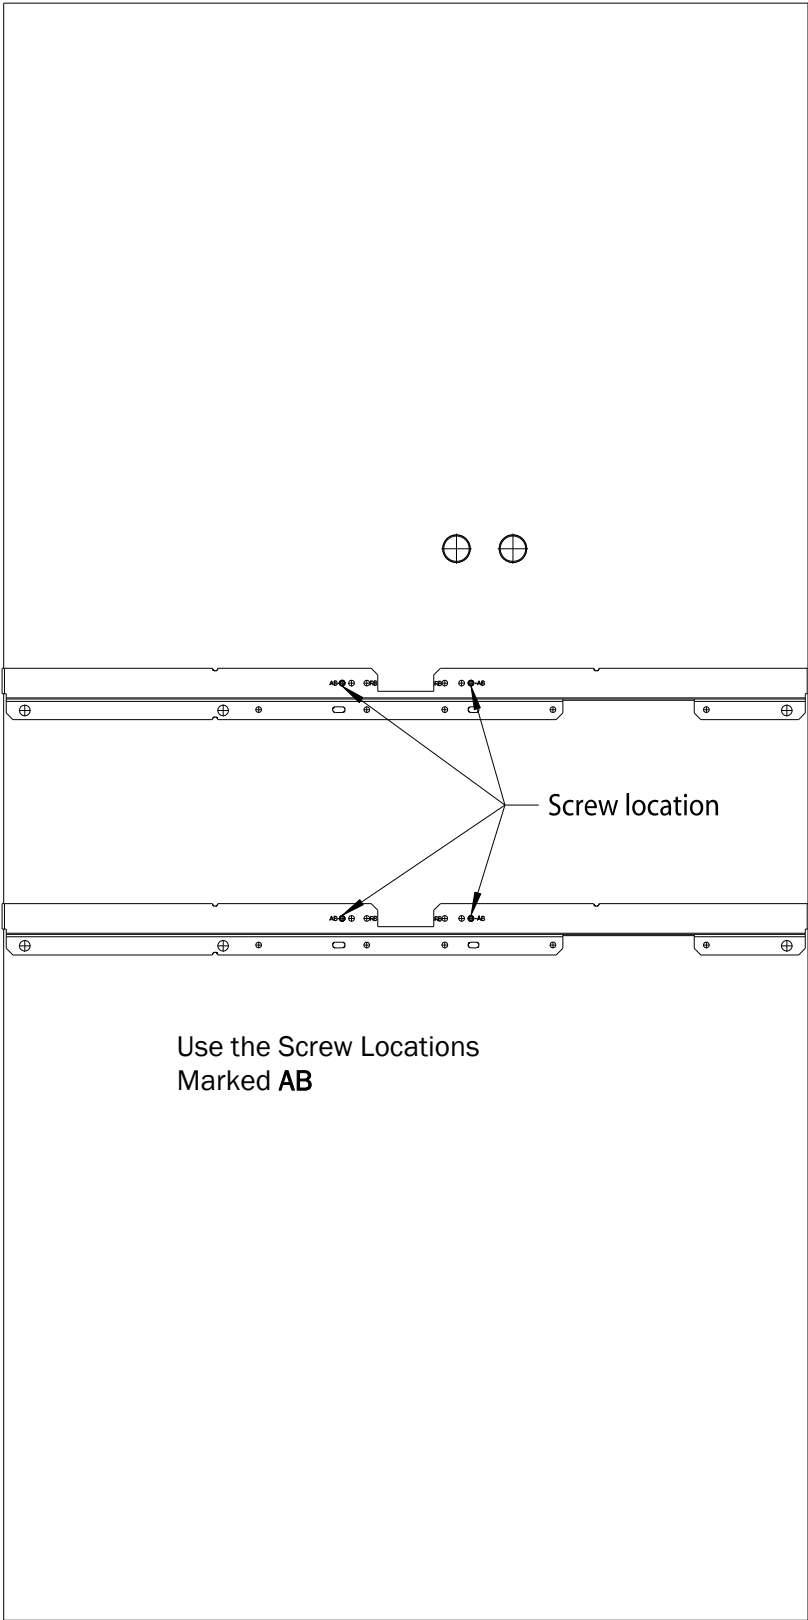

Figure 2-10: Core AP Below Ceiling Tile Mounting Rail Screw Locations
4. Mark the location of the **AB** screw holes in the mounting rails on the ceiling tile where the holes will be drilled through the tile as shown in Figure 2-10. Drill four .375-inch (10 mm) diameter holes in the ceiling tile.